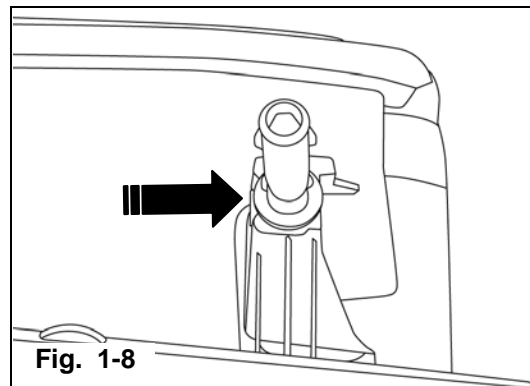

Fig. 1-8
- e) Reinstall push-pin in A-pillar trim into proper position to secure. **(Fig. 1-8)**